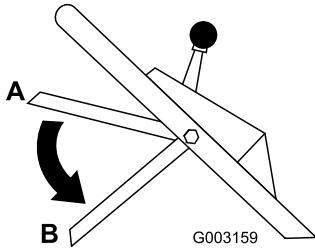

Figure 23
- Release the control bar; refer to position B in Figure 23. You should hear a “bang.” The blade should stop in 3 seconds.
- Move the control bar down to its lowest position (Position B in Figure 23).